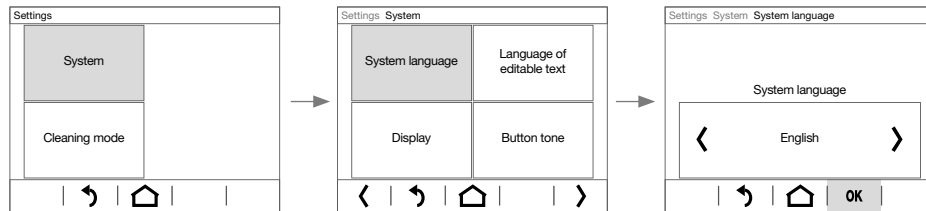

Figure 5: Example of setting the system language
The display changes to another page where you must select once again, or it changes directly to the setting of the parameter (Figure 5).
- With  /  decrease/increase the parameter value, with  /  scroll to a preset value (Figure 5) or with **ON** / **OFF** activate/deactivate the parameter (Table 1).